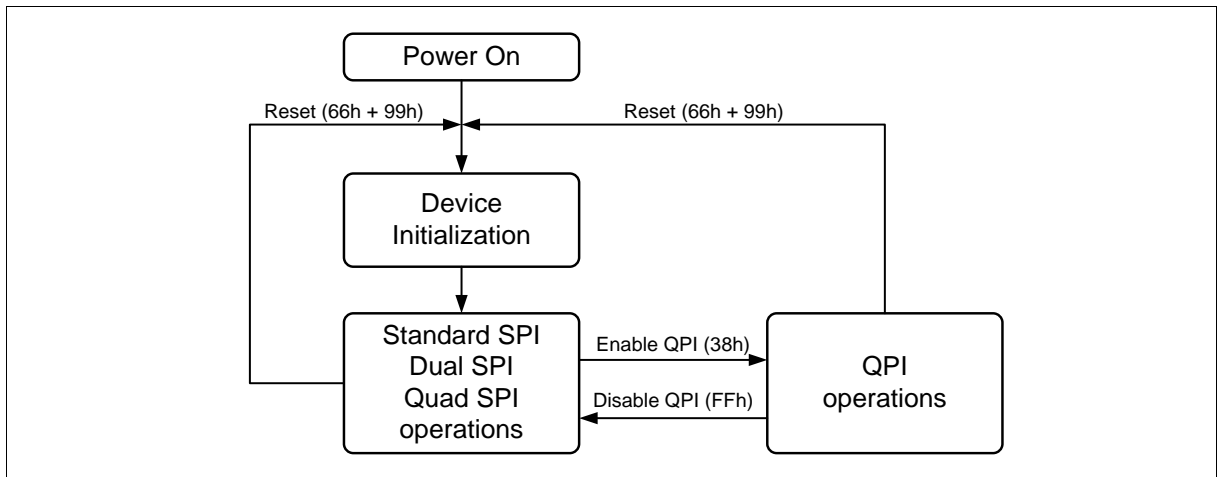

Figure 2 FM25LQ64I3 Serial Flash Memory Operation Diagram
The FM25LQ64I3 supports Quad Peripheral Interface (QPI) operations only when the device is switched from Standard/Dual/Quad SPI mode to QPI mode using the “Enable QPI (38h)” instruction. The typical SPI protocol requires that the byte-long instruction code being shifted into the device only via DI pin in eight serial clocks. The QPI mode utilizes all four DQ pins to input the instruction code, thus only two serial clocks are required. This can significantly reduce the SPI instruction overhead and improve system performance in an XIP environment. Standard/Dual/Quad SPI mode and QPI mode are exclusive. Only one mode can be active at any given time. “Enable QPI (38h)” and “Disable QPI (FFh)” instructions are used to switch between these two modes. Upon power-up or after a software reset using “Reset (66-99h)” instruction, the default state of the device is Standard/Dual/Quad SPI mode. To enable QPI mode, the non-volatile Quad Enable bit (QE) in Status Register-2 is required to be set. When using QPI instructions, the DI and DO pins become bidirectional DQ0 and DQ1, and the WP# and HOLD# pins become DQ2 and DQ3 respectively. See Figure 2 for the device operation modes.